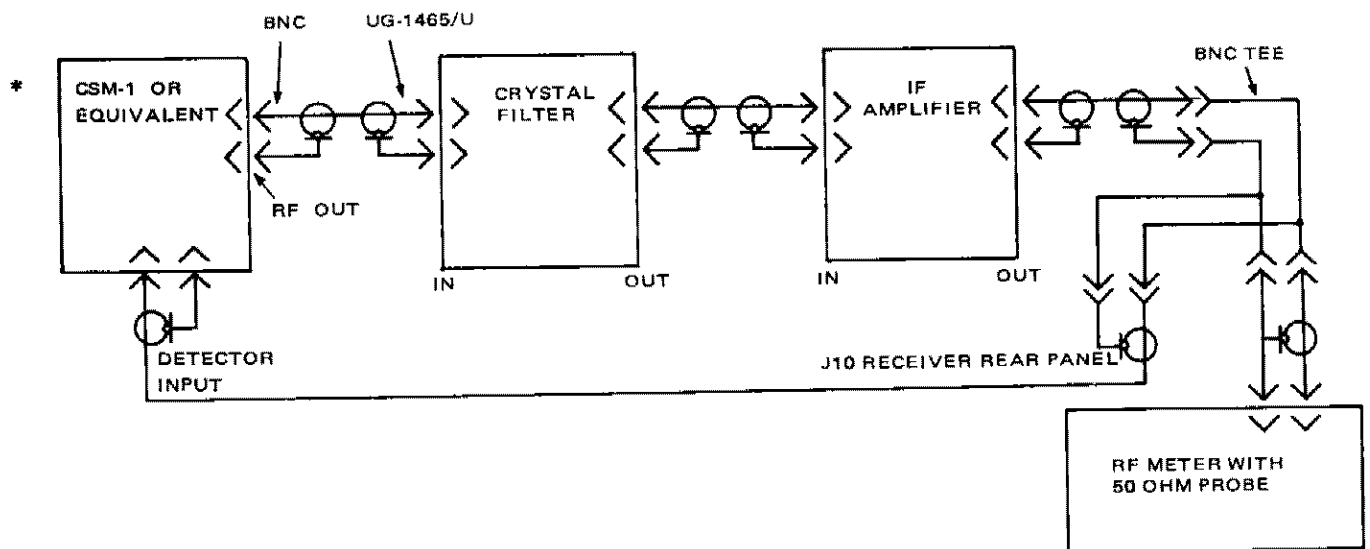

Figure 7-11. Test Setup for IF Amplifier A6 and Crystal Filter FL1
**7.14.12 IF Amplifier A6 and Crystal Filter FL1 Bandpass Characteristics.-** Figure 7-11 shows the test setup.